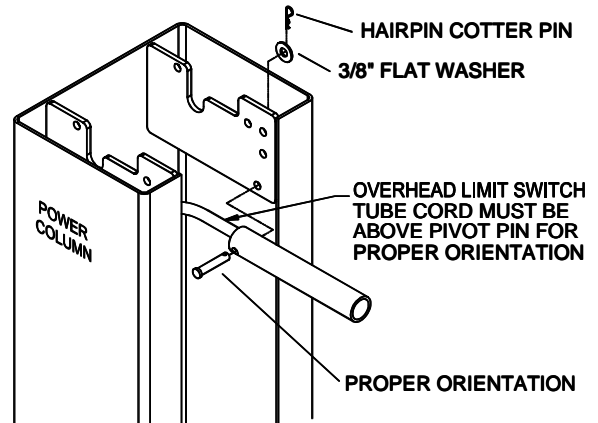

Fig 4a – Overhead Limit Switch Sub-Assembly
- 13) Install Overhead Limit Switch to Power Column using (1) 3/8" pivot pin, (1) 3/8" flat washer and (1) hairpin cotter pin as shown in **Fig 4a**.